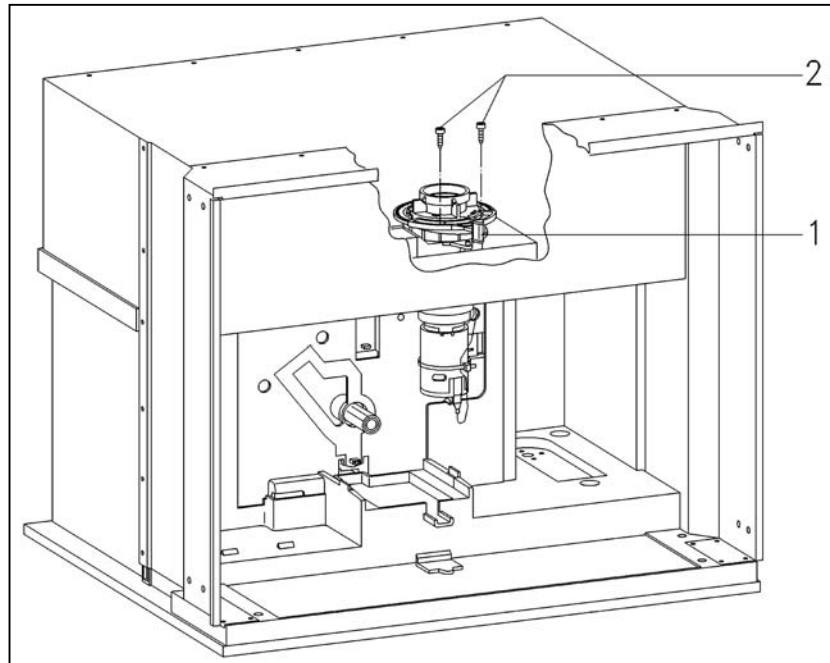

Figure 5-44: (1) Grinder Adjustment Lever (2) Lever Fixing Screws
7. Pull off the handle (Figure 5-44, Item 1).